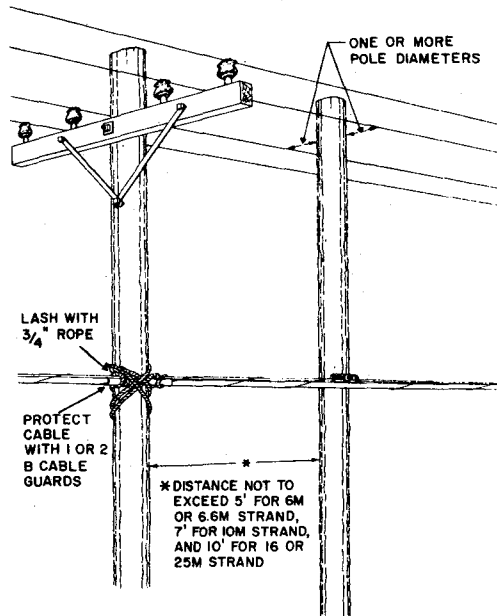

Fig. 4—Tying Poles Together with Suspension Strand
7.05 Where the new pole is being set in line but a few feet away from the old pole and aerial cable is present, use the suspension strand to tie the poles together as shown in Fig. 4. The cable strand may be left attached to the old pole by its suspension clamp and through bolt if it is mutually agreed that the power company may remove these attachments when they remove the pole or if the pole will be removed later by the telephone company. Lashing with rope will not be necessary if poles are left bolted to the strand. Where
distances will exceed those shown in Fig. 4, notify your supervisor.